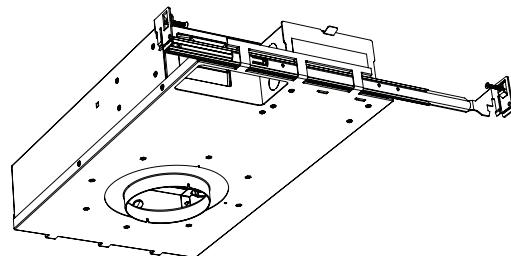

fig. 3
- c. Insert the outer nailer bar into the same housing clasps, locking the inner and outer halves together. Make sure the screw is on top (see fig. 3).
- b. Screw the ends of both bars into the wooden joists, fixing the housing in place (see fig. 3).